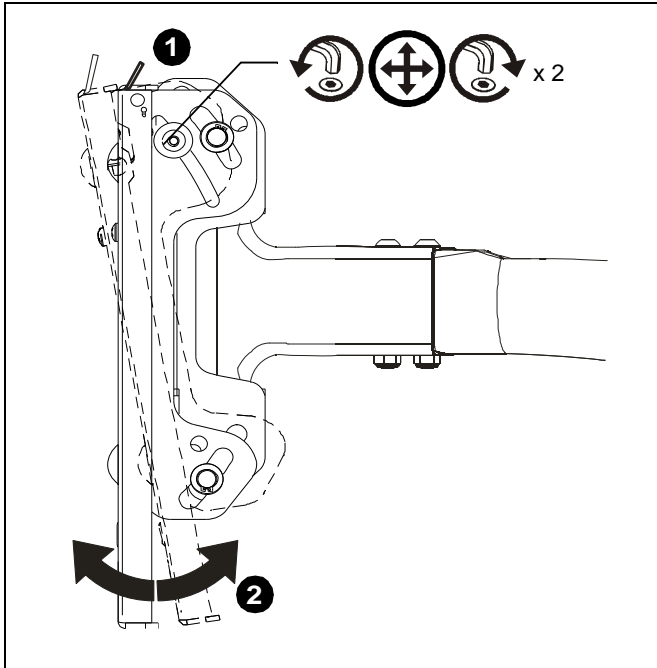

Figure 7
1. With display installed, tighten or loosen two screws, one on each side, using the 5/32" hex wrench. (See Figure 7)